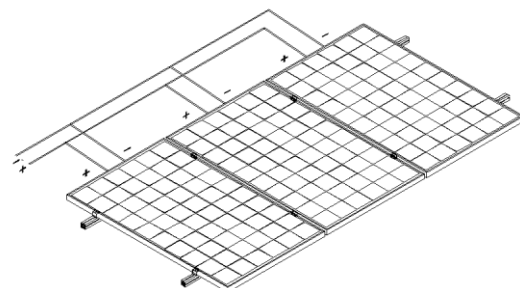

figure7 Parallel
- While connected in parallel, the output current is equal to the sum of current of each string (show in figure7). Use a fuse in each string of module; please refer to the application requirements locally. Recommended maximum parallel module configurations: Fuse rating/ $I_{sc}+1$ , please refer to table 3.